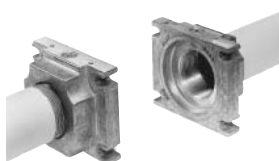

Fig. 23
3. Remove MultiBloc between the threaded flanges (Fig. 23).